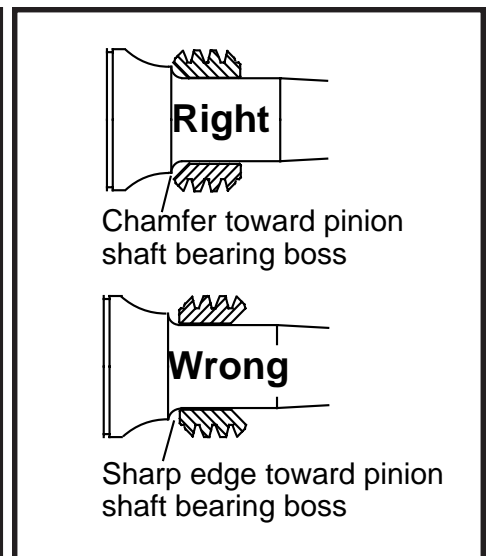

Figure 10
- Be sure oil pump drive gear is installed with chamfered side toward pinion shaft bearing boss. See **Figure 10**.
**CAUTION -** If oil pump drive gear is installed with sharp edge against radius on pinion shaft bearing boss, sharp edge may nick radius. This can result in a stress riser that may cause shaft to break. See **Figure 10**.